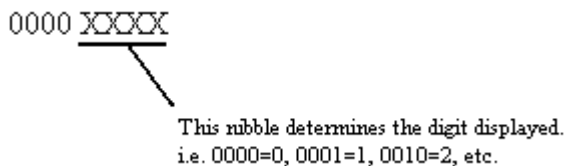
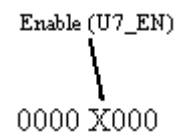

Figure 2. Port T data register
Figure 3. 7-segment display enable bit of the Port M data register.
The AXM-0295 project board includes a 7-segment display useful for visual display of program outputs. It will display decimal values 0 – 9 corresponding to binary inputs 0000 – 1001. The 7-segment display inputs are connected to the lower nibble (bits 0-3) of Port T data register, as shown in Figure 2. The corresponding bits of the Port T data direction register must be set high (1) to configure them as outputs. The 7-segment display also utilizes an enable signal that is wired to bit 3 of Port M, as shown in Figure 3. To enable the 7-segment display, Port M bit 3 must first be set as an output in the Port M *data direction* register, and then a high value (1) must be written to the Port M *data* register.